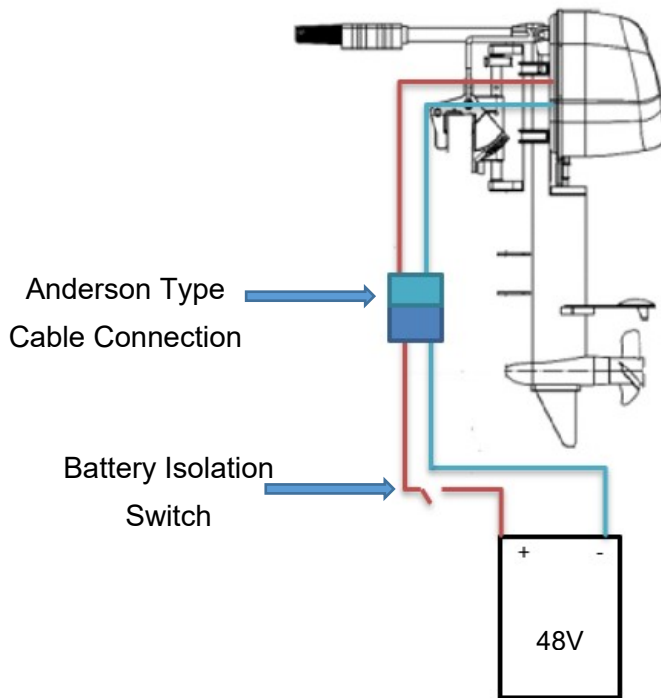

Figure 23: Battery Connections
- Connect the battery to the outboard harness as per **Figure 23**.